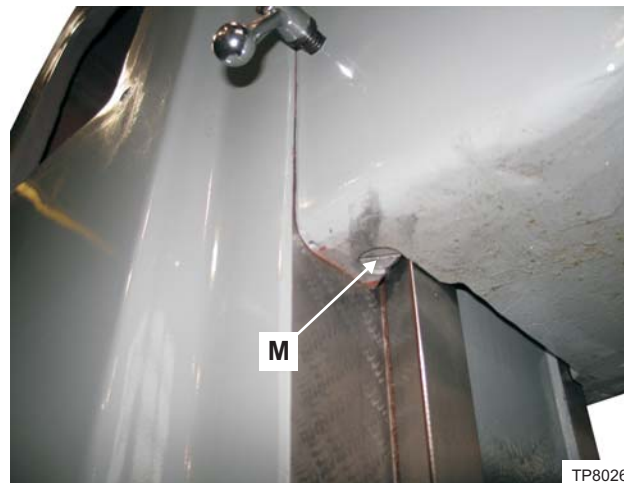

Figure 3.18 - Lower Knee
- A) Loosen lower gib screw "M", Figure 3.18.
- B) Tighten lower gib screw "M" Figure 3.18, slightly and test the knee movement.